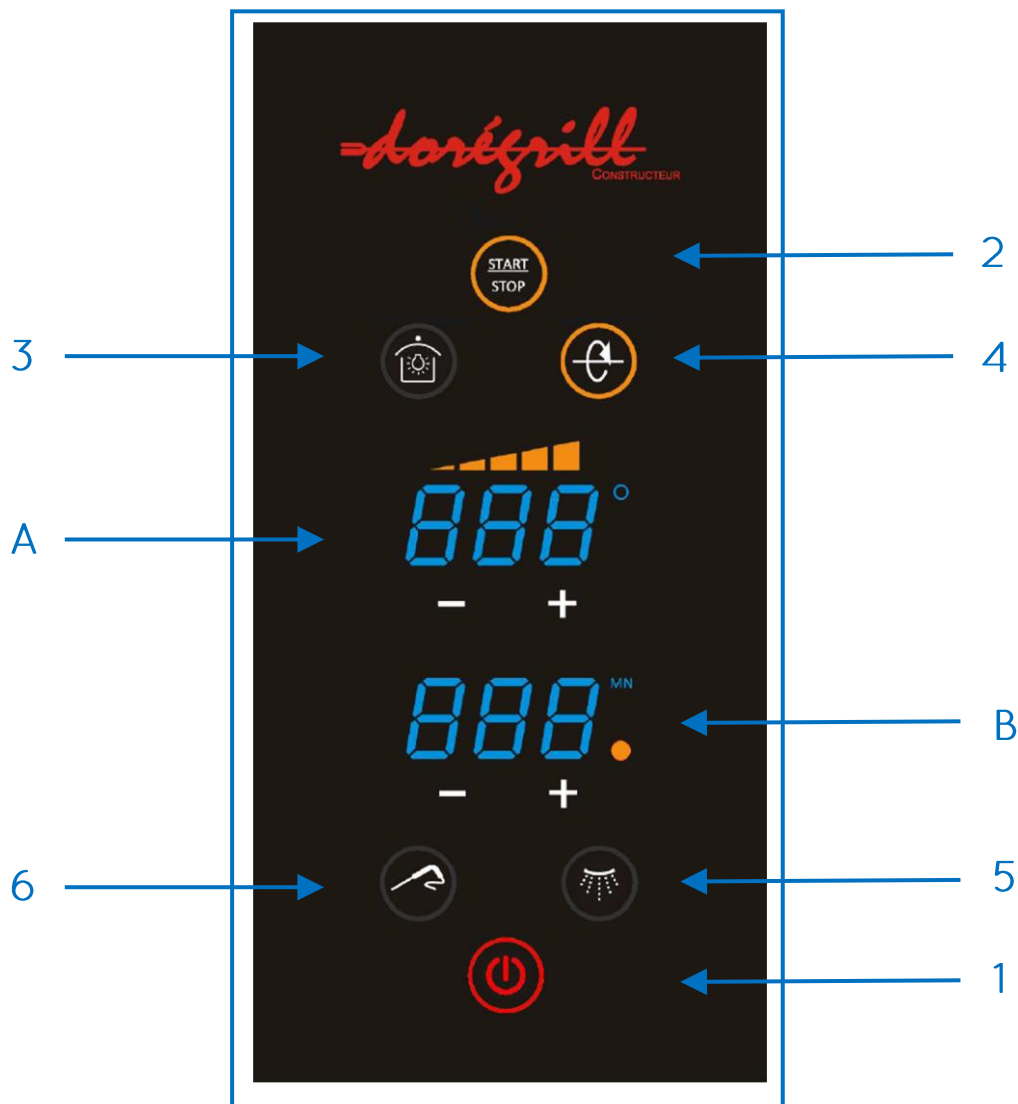

Fig. 3 : Control panel
- A control panel **13** *(Fig. 3)*.